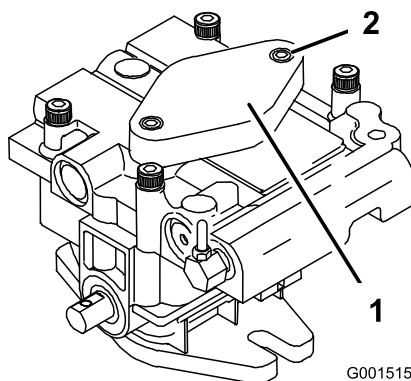

Figure 58
7. To prime the charge pump, loosen two hex socket head capscrews (Figure 58) 1-1/2 turns only. Make sure engine is not running. Lift charge pump housing upward and wait for a steady flow of oil to flow out from under housing. Retighten capscrews. Do this for both pumps.